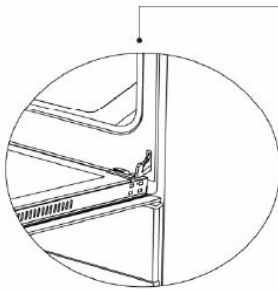

Figure 8.1
- Open the door fully by pulling the oven door toward yourself. Then perform the unlock operation by pulling the hinge lock upwards with the aid of a screwdriver as indicated in Figure 8.1